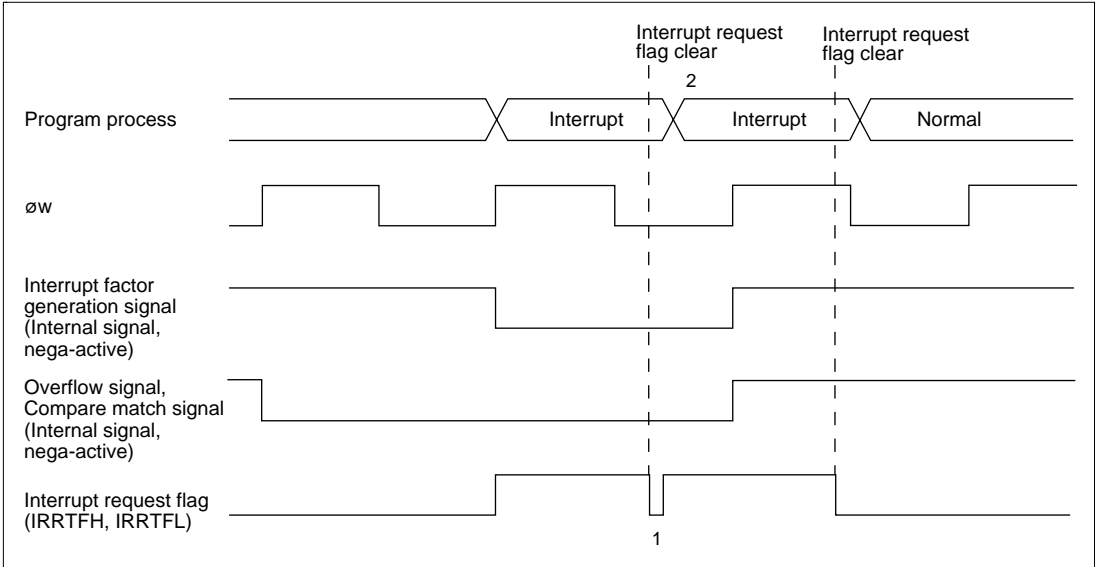

Figure 9-7 Clear Interrupt Request Flag when Interrupt Factor Generation Signal is Valid
When $\phi_w/4$ is selected as the internal clock, “Interrupt factor generation signal” will be operated with ϕ_w and the signal will be outputted with ϕ_w width. And, “Overflow signal” and “Compare match signal” are controlled with 2 cycles of ϕ_w signals. Those signals are outputted with 2 cycles width of ϕ_w (figure 9-7)
In active (high-speed, medium-speed) mode, even if you cleared interrupt request flag during the term of validity of “Interrupt factor generation signal”, same interrupt request flag is set. (figure 9-7 1) And, you cannot be cleared timer overflow flag and compare match flag during the term of validity of “Overflow signal” and “Compare match signal”.
For interrupt request flag is set right after interrupt request is cleared, interrupt process to one time timer FH, timer FL interrupt might be repeated. (figure 9-7 2) Therefore, to definitely clear interrupt request flag in active (high-speed, medium-speed) mode, clear should be processed after the time that calculated with below (1) formula. And, to definitely clear timer overflow flag and compare match flag, clear should be processed after read timer control status register F (TCSRF) after the time that calculated with below (1) formula. For ST of (1) formula, please substitute the longest number of execution states in used instruction. (10 states of RTE instruction when MULXU, DIVXU instruction is not used, 14 states when MULXU, DIVXU instruction is used) In subactive mode, there are not limitation for interrupt request flag, timer overflow flag, and compare match flag clear.